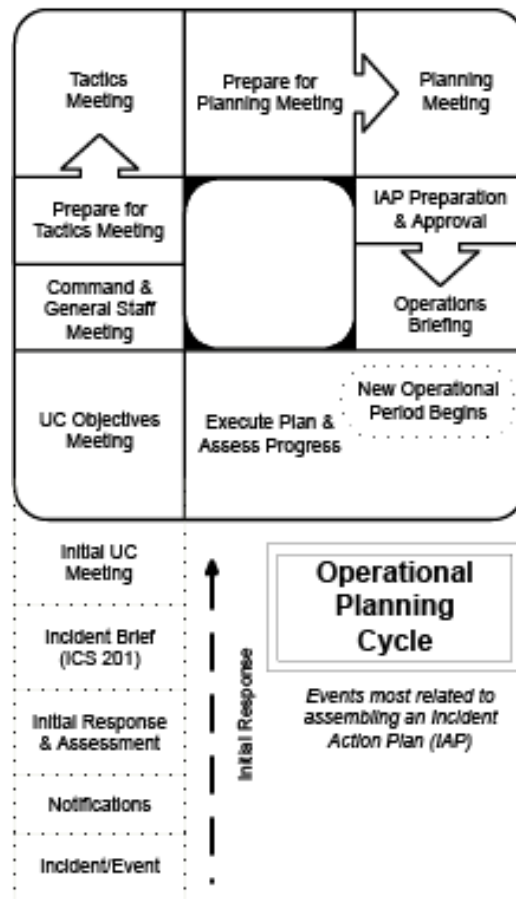

Figure 4 ICS Operational Planning "P" Process
- Support Operational Planning: Guidance for integrating source control activities into the ICS Operational Planning “P” sequence (see figure 4)